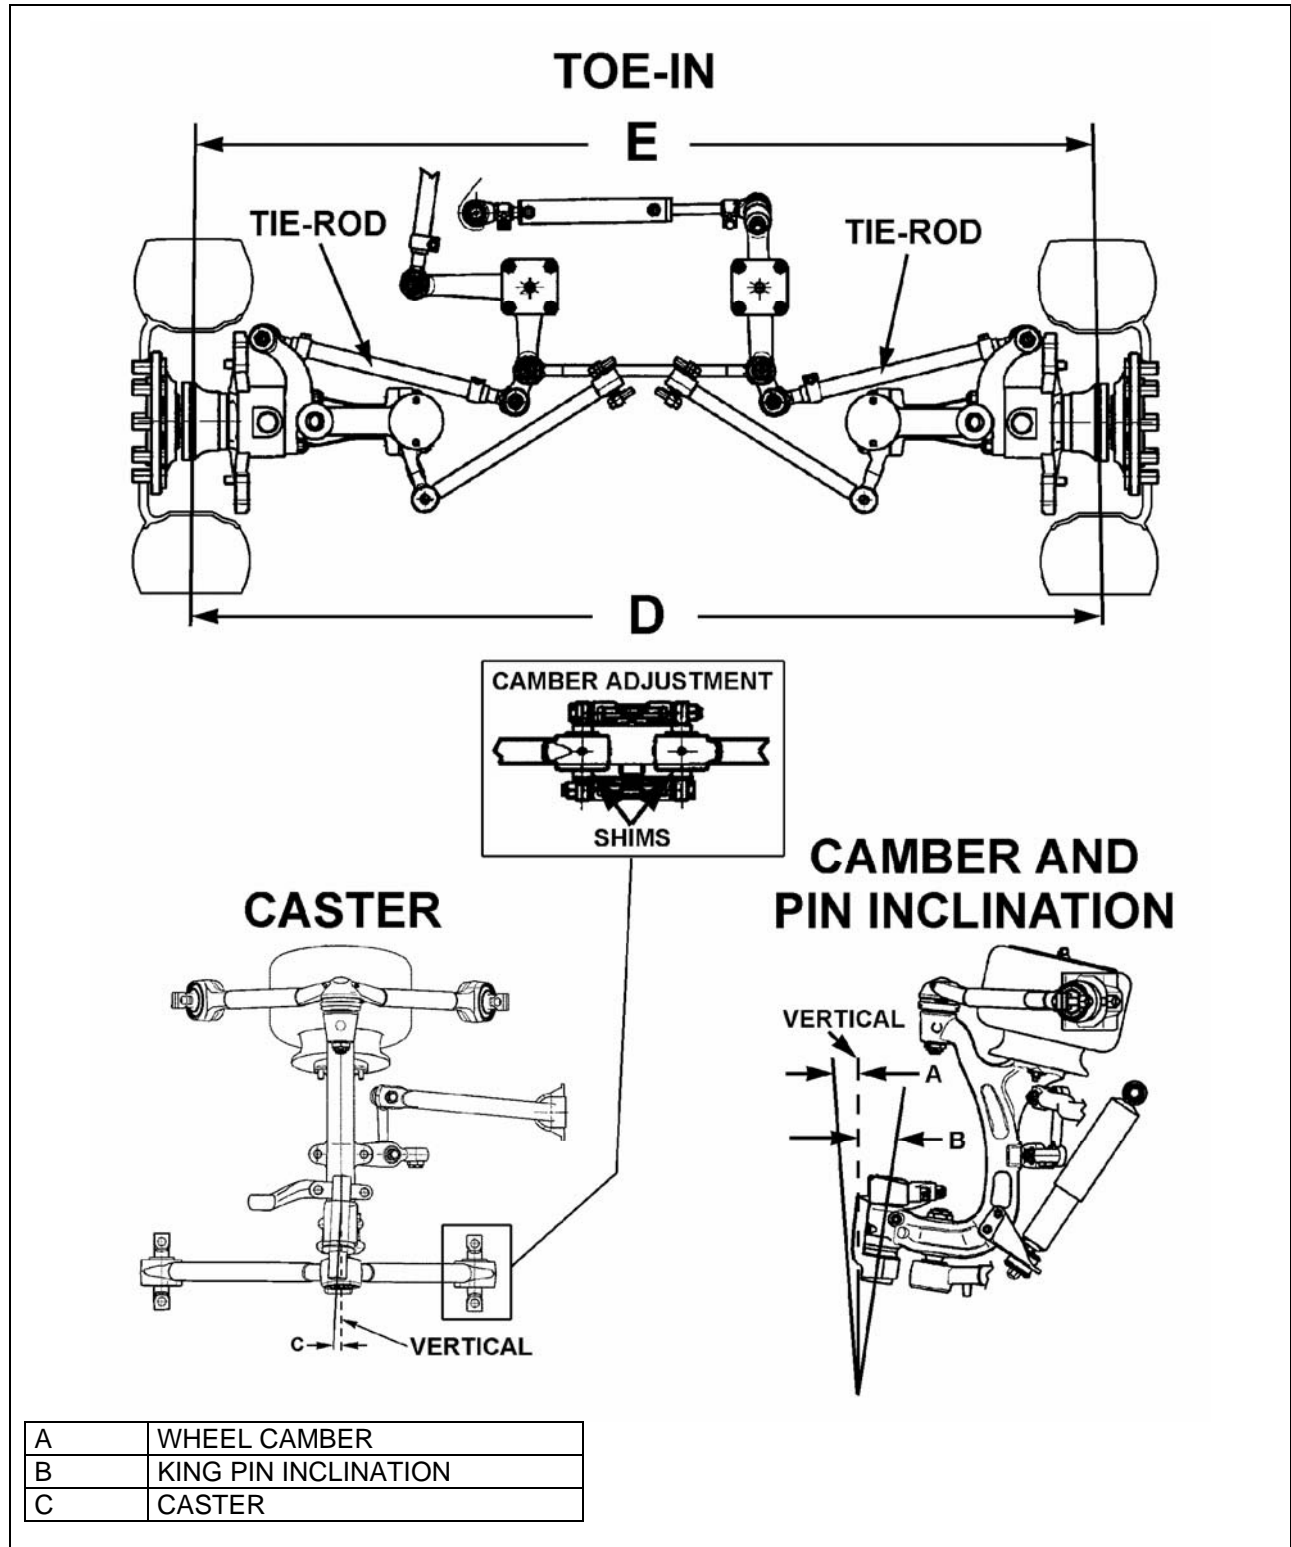

FIGURE 35: FRONT END ALIGNMENT DIAGRAM
The amount the wheels are inclined from the vertical plane (A, Fig. 35).
The distance the front wheels are closer together at the front than at the rear of the tires (D minus E, Fig. 35).
The inclination of the king pin from vertical toward the center of the vehicle at the top and outward at the bottom (B, Fig. 35).
The inclination of the king pin from vertical in the fore and aft direction (C, Fig. 35).
See figure 35.
5. Install the shock absorber as shown in figure 35 with the mounting stud protruding through the hole in the mounting bracket and the shock absorber eyes over the mounting pins. Install the outer washer.